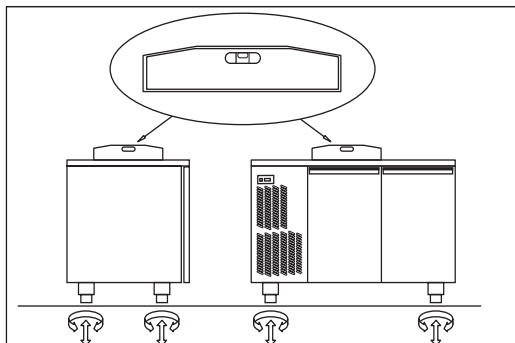

Fig.5
- position the refrigerated Table using a level with possible adjustment of the feet of the metal base (Fig. 5)
- position the machine in the same way as described for the refrigerated tables (Fig. 5)